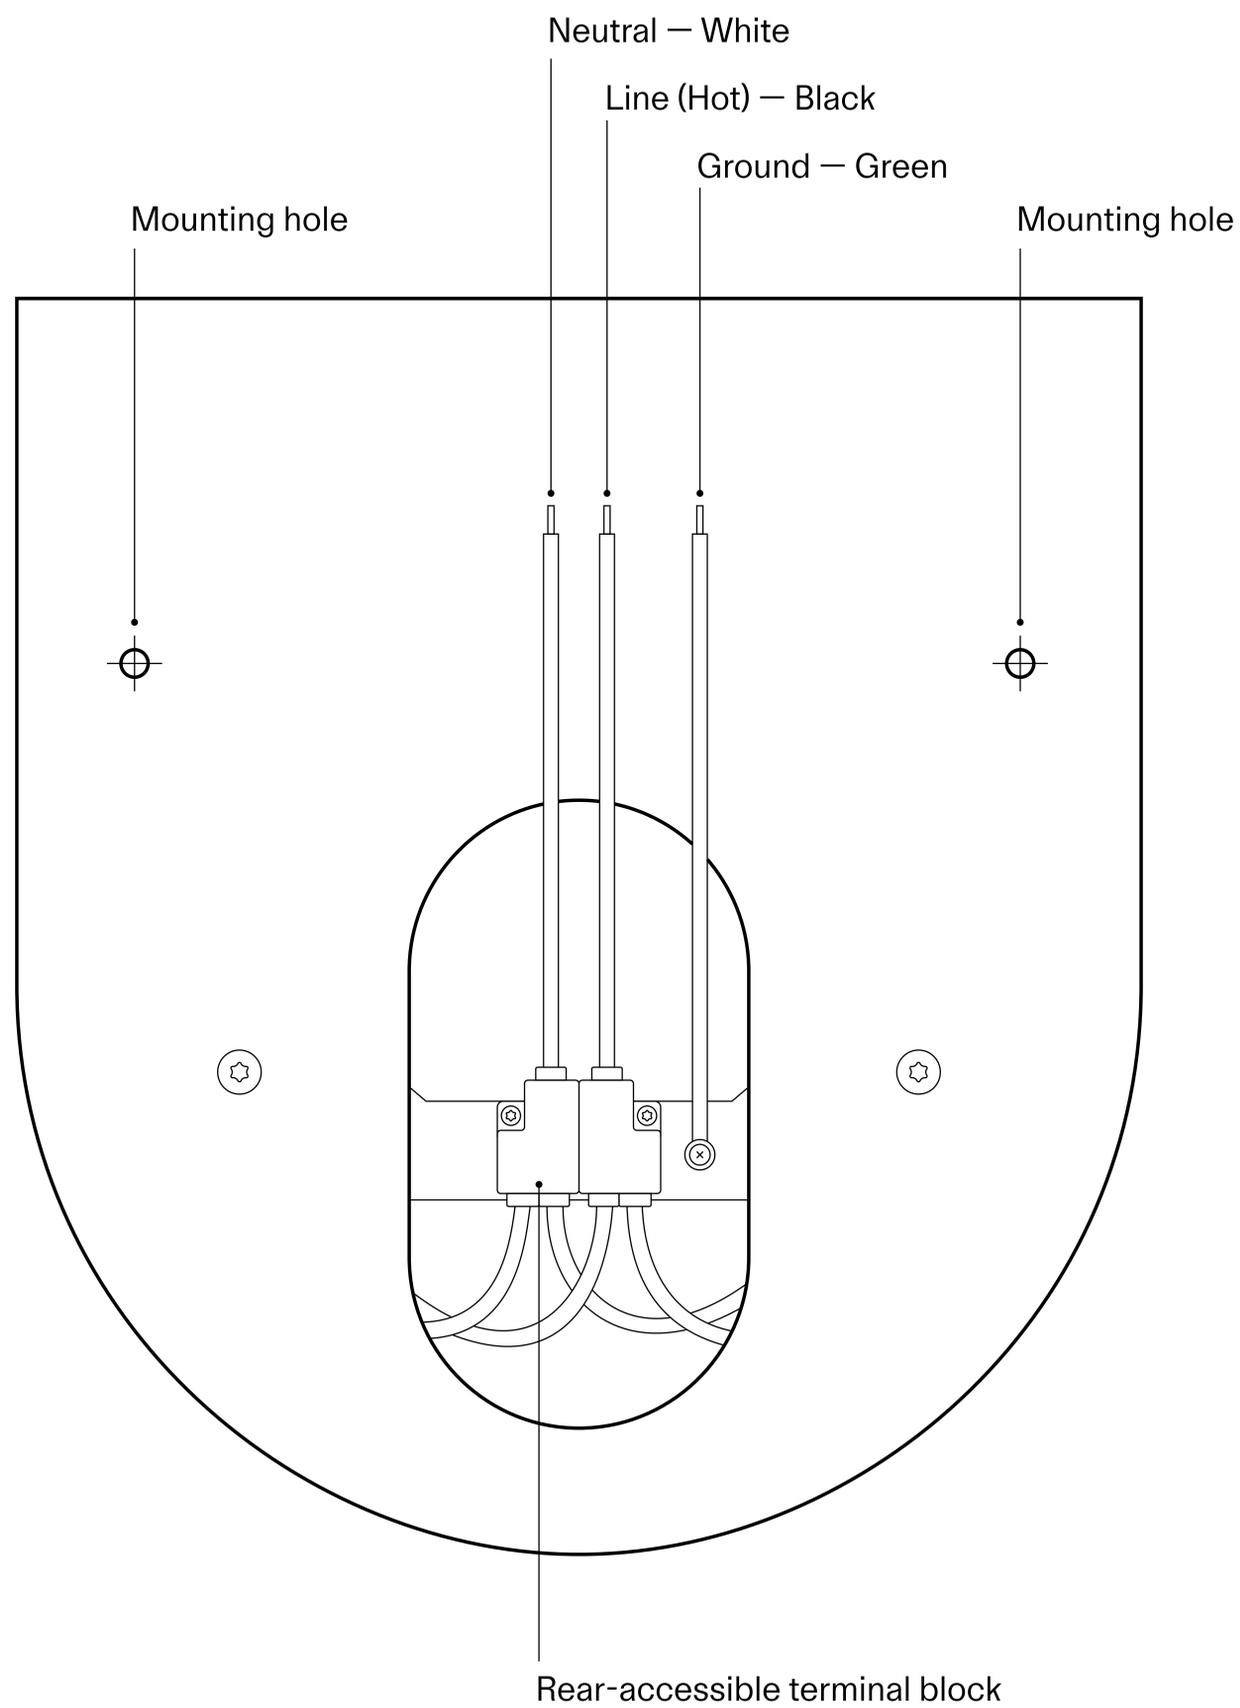

Figure 1: Leveling
1. Position and level the fixture (*Figure 1*).